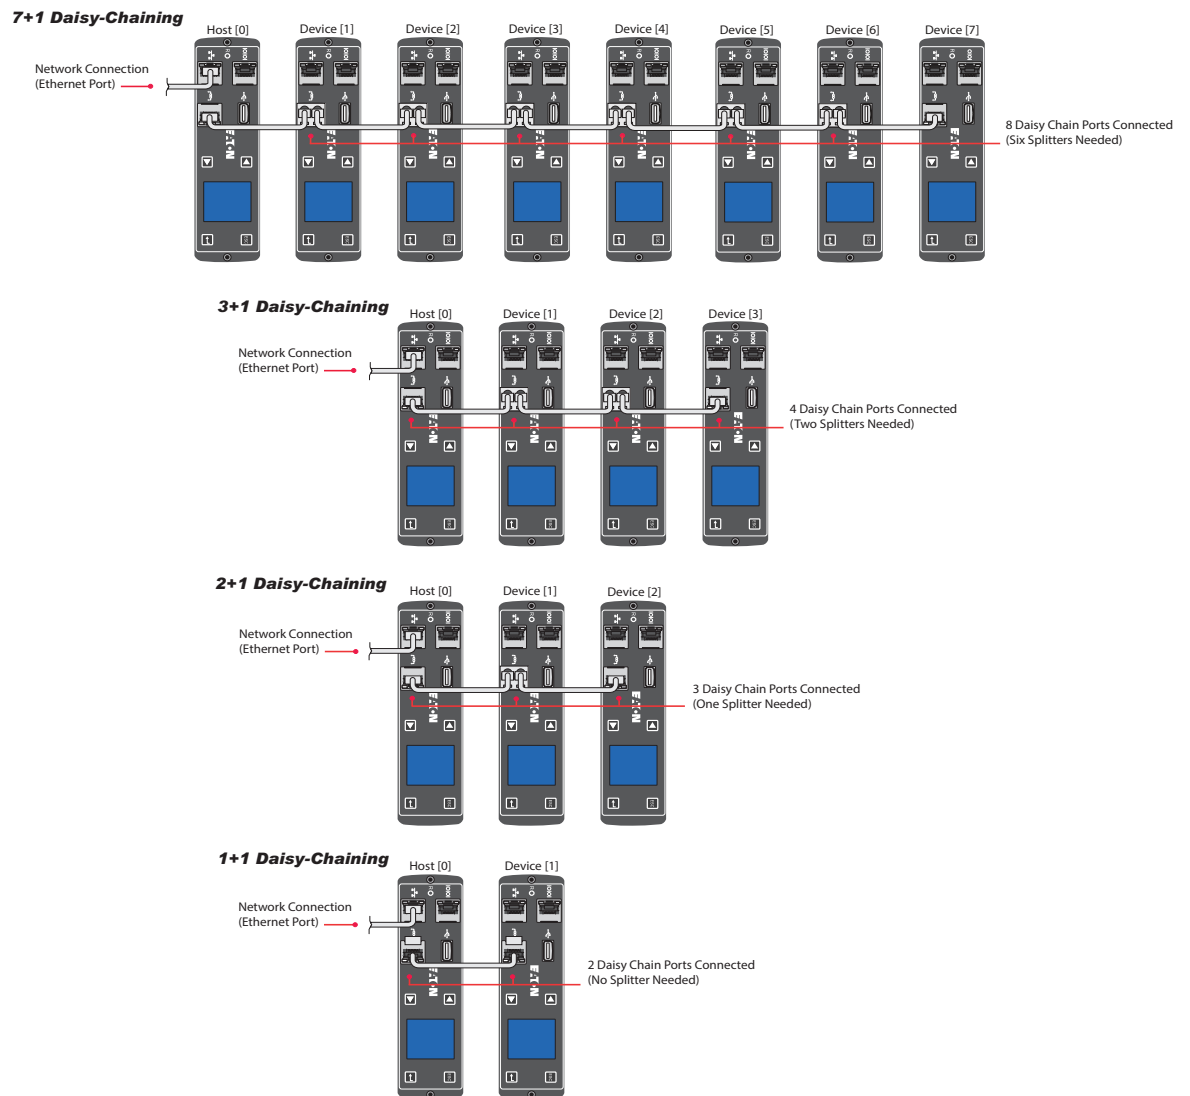
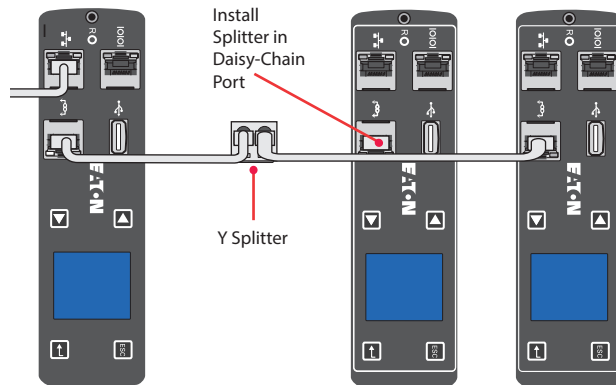

Figure 29. Locating the Daisy Chain Connector
Figure 30. Y Splitter in Daisy-Chain Port (2+1 Daisy-chaining Shown)
3. Connect one end of the cable to the Daisy Chain connector on one ePDU. Connect the other end of the cable to the Daisy Chain connector on the other ePDU as shown in Figure 29.
5. Insert a Y splitter in the Daisy Chain connector for all ePDUs between the Host and the last ePDU in the chain, as shown in Figure 29 and Figure 30.